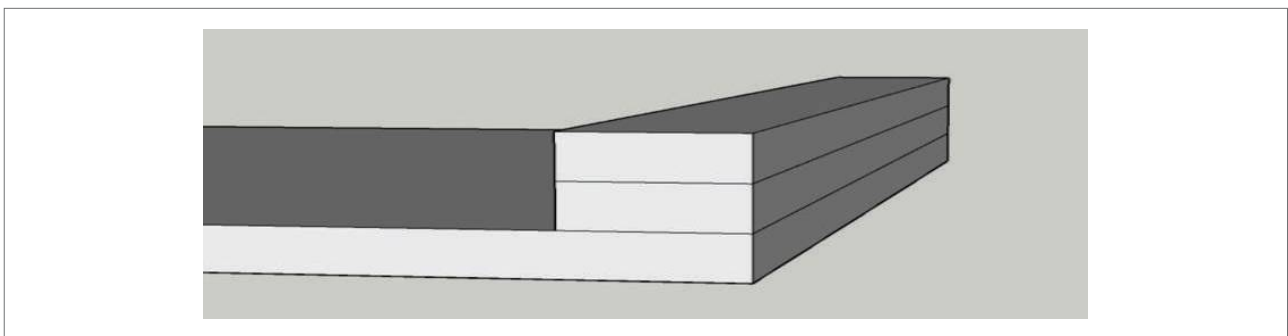

Fig.3
- ways to produce a drop edge is to simply stack layers of HIMACS on the underside of the sheet. Fig.3.